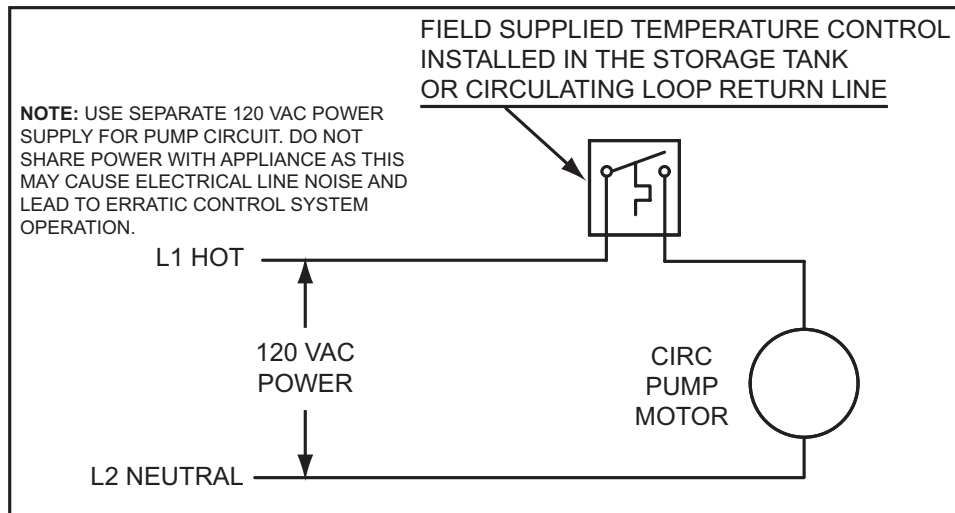

Figure 59
5. If a pump is being installed between a water heater and storage tank or on a building recirculation loop wire according to Figure 59 on page 66.
6. If a pump is being installed in a recirculation loop between the water heater and a commercial dishwasher wire according to Figure 59 or Figure 60 on page 66.